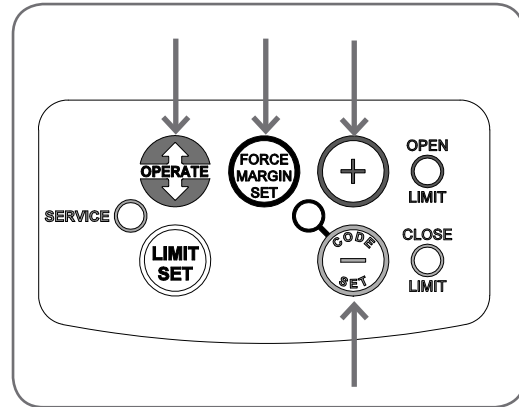

Fig. 28
- Press the OPERATE button to open the door (Fig. 28).
- Press the OPERATE button to close the door (Fig. 28).
- Press and hold the FORCE MARGIN SET button (Fig. 28).